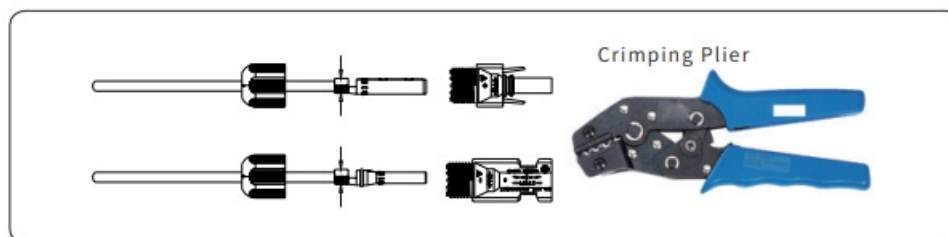

Figure 4-11
4. Insert the DC cable through the DC connector nut into the metal terminal and press the terminal with a professional crimping plier (pull back the cable with some power to check if the terminal is well connected to the cable), as shown in Figure 4-11: